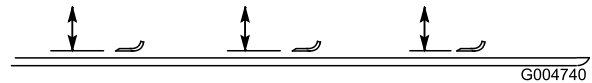

Figure 81
2. Rotate the blade until the ends face forward and backward (Figure 81). Measure from the inside of the cutting unit to the cutting edge at the front of the blade. Remember this dimension.